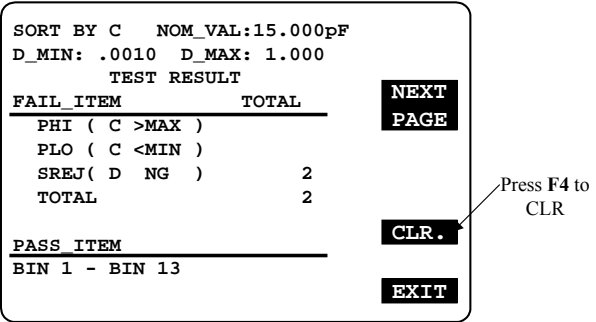

Figure 8-25
- Press F4 key to delete test result (Figure 8-25).